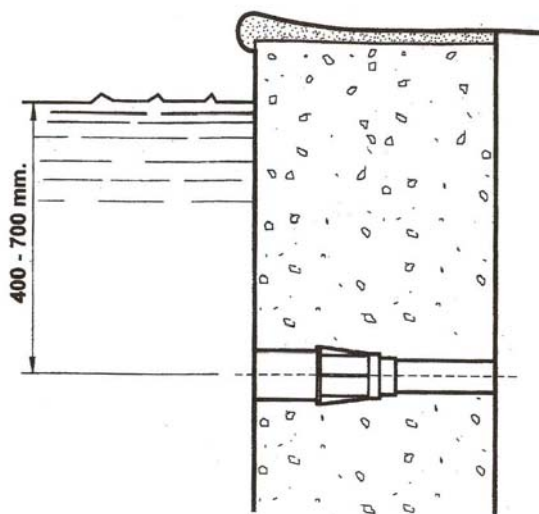

Fig. 2
1. the light should be installed at approximately 400 mm below the water-level of the SPAS and in a place where it can not easily be covered by the body of a person. Install it preferably in the wall of the steps at the entrance of the SPAS (Fig.2).